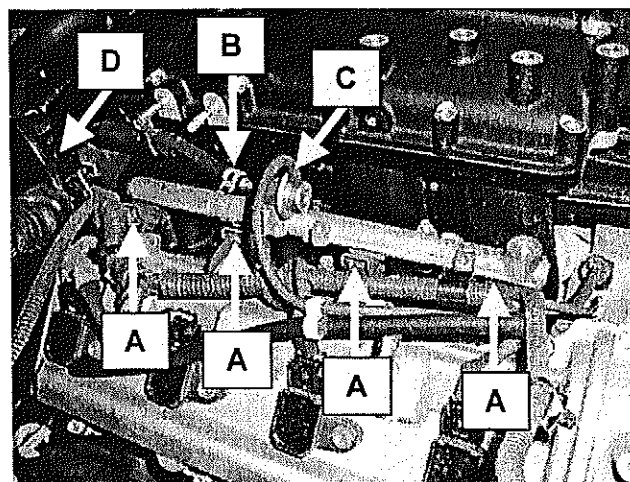

Figure 11
18. On the passenger's side of the supercharger, refer to Figure 11 and perform the following:
- Unplug the fuel injector connectors (A).
- Remove the fuel return hose (B) and vacuum hose (C) from the fuel regulator.